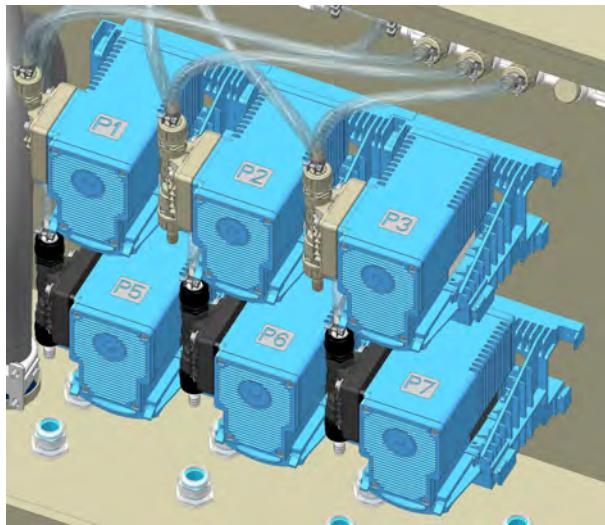

Fig. 6: Product assignments
1. ➤ Guide the hoses of the product suction lances through the pull relief screw connections (Fig. 6, no. 1).
2. ➤ Connect the tubing hoses to the corresponding hose nipples (Fig. 6, no. 2) of the pumps (Fig. 6, no. 3) using the hose clamps supplied.